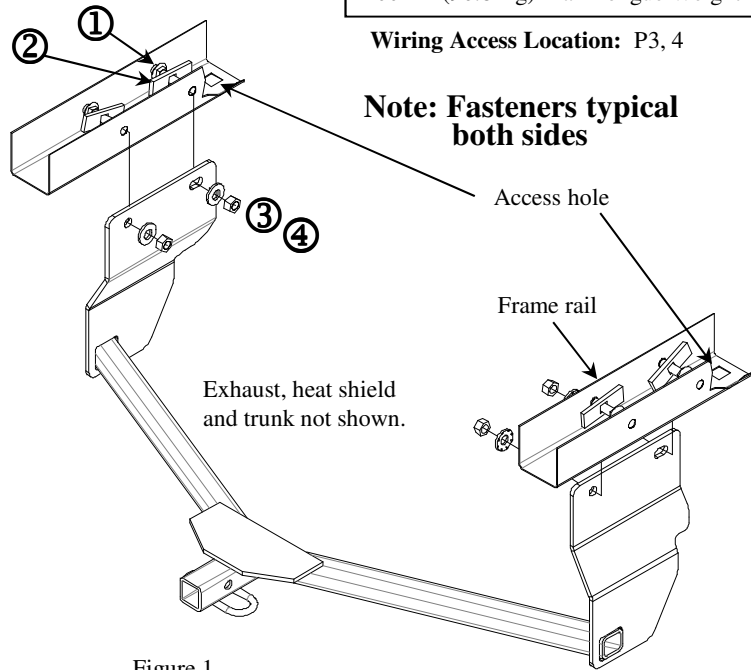

Figure 1.
- Raise hitch into position as shown. Figure 1 Note: on dual exhaust locate the hitch near the muffler then raise along exhaust pipes and move rearward into position